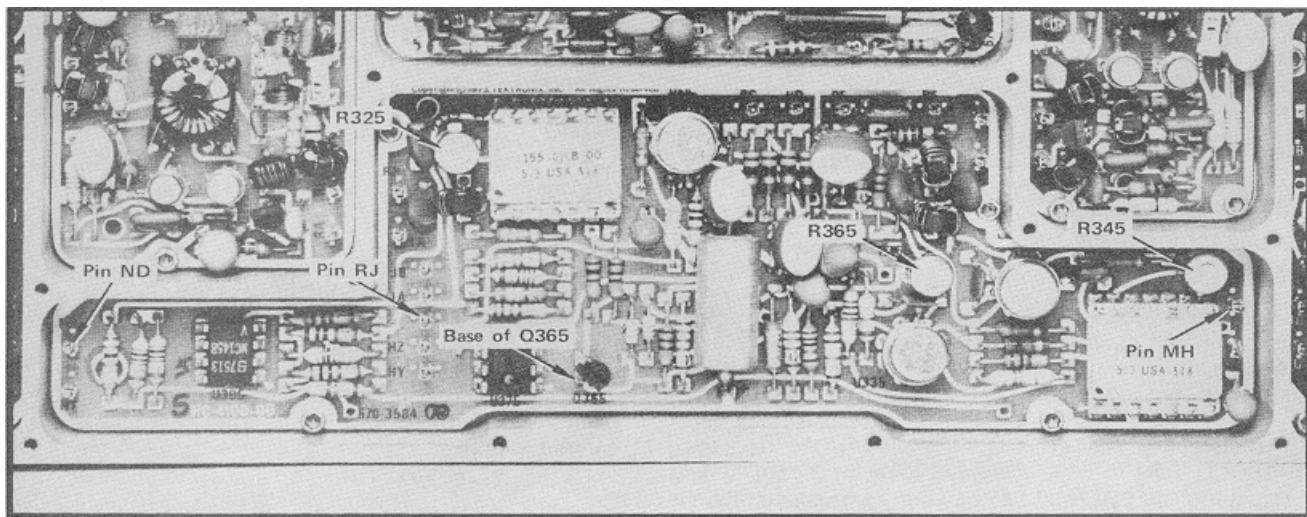
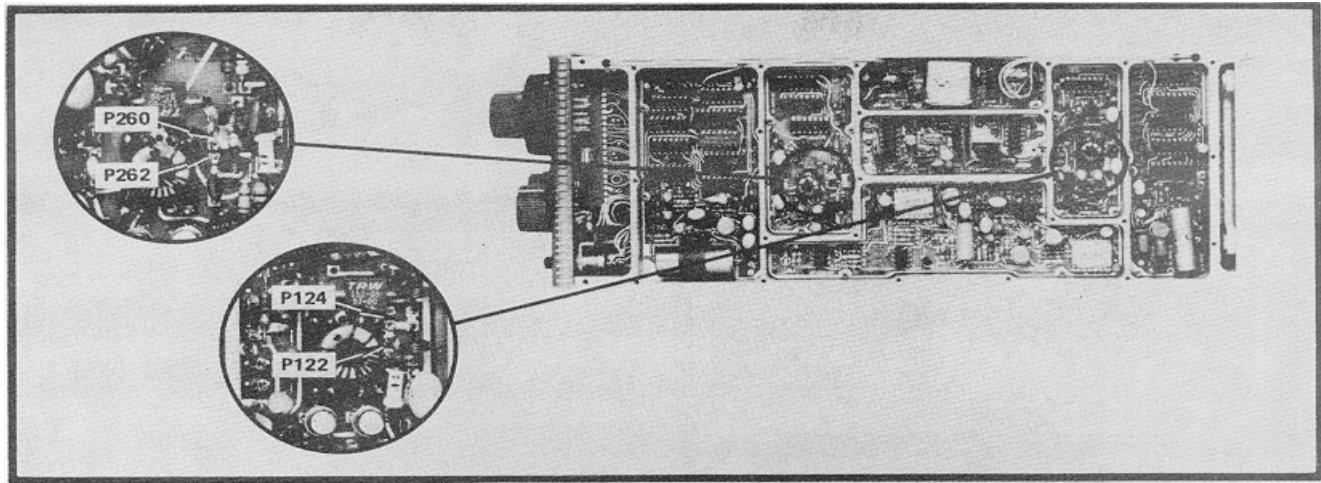

Fig. 4-6. Test point and adjustment locations for the A & B Oscillator Control.
Fig. 4-8. Location of A & B Oscillator frequency determining jumpers.
- b. Connect a DVM (digital voltmeter) to the base of Q365 (A and B Oscillator Control 7) and adjust R365 (Fig. 4-6) for a reading of 11.00 volts.
1. Adjust R655 (Fig. 4-8) for 0 V at pin RJ (Fig. 4-6) then add or remove jumpers P122 and/or P124 (Tektronix Part No. 131-1493-00) so the DOT is close to, but not to the right of, center screen (high frequency side).
e. Set the DOT FREQUENCY to 00.00 kHz and connect the DVM to pin MH (A Memory) of the A and B Oscillator Control (Fig. 4-6). Note the voltage.
g. Adjust the A Memory Gain with R345 (Fig. 4-6) until the voltage difference between step e and f is 16.6 to 16.; volts.
h. Set the DOT FREQUENCY to 50.00 kHz then check the voltage at pin ND of the A and B Oscillator Control (Fig. 4-6). If the voltage is more than ± 1.5 V, remove or add jumpers P260 and P262 (Fig. 4-8) to decrease the voltage below ± 1.5 V.
i. Set the DOT FREQUENCY to 99.75 kHz. Measure the voltage at pin ND of the A and B Oscillator Control assembly (Fig. 4-6). Note this voltage.
k. Adjust the B Gain with R325 (Fig. 4-6) until the voltage difference at pin ND, between the two DOT FREQUENCY settings (steps i and j), is 18.0 volts.